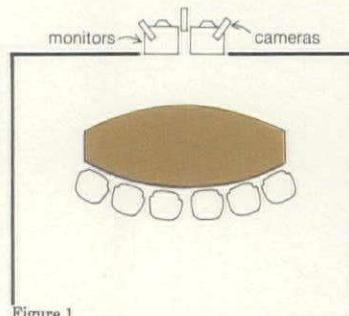
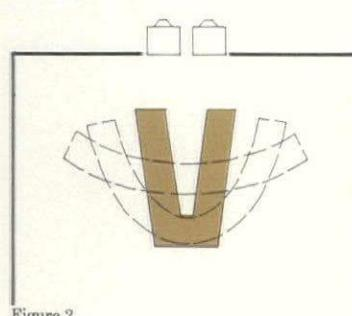
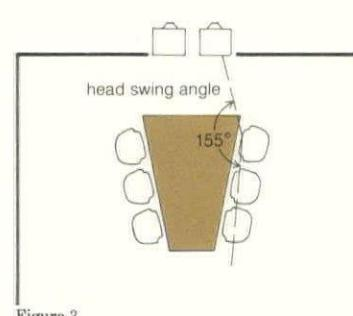

Figure 1
Figure 2
Figure 3
The arched shape of the semicircular table (Figure 1) satisfies two important optical parameters. First, every participant is approximately equidistant from the cameras. Second, every participant is approximately equidistant from the video monitors. The arrangement allows participants to be an appropriate distance from the monitors, and it avoids subjective image distortion introduced when lenses must encompass both very near and relatively distant objects. It also tends to give virtually equal importance to each participant. It was intended to approximate the feeling of a continuous conference table that extends to rooms at each end of the teleconference, divided from each other only by a transparent hole in space. (Unfortunately, this illusion of an extended conference table can be achieved only with large-screen television projection, which has other disadvantages.)
One of the development principles behind the wedge-shaped table (Figure 2) was the intent to break down the hole-in-space barrier while using standard monitor sizes. The table can be looked at as the end result of "bending" the semicircular table inward until it forms a wedge or V shape. Proponents of this design say it provides a meeting setting more conducive to discussion within the room than the semicircular design, that it allows better overview pictures and that it avoids debate over switching algorithms. Since it requires fewer cameras to cover, it also tends to be less expensive.
Another comment is that, because the table promotes interaction among those seated around it, it tends to make people at the remote location mere observers of an *internal* conference rather than active participants. It is for this reason that we label the wedge-shaped table an "internal-oriented configuration." The wedge shape also requires participants to perform an almost 180-deg head swing in order to look from an adjacent participant to the image on the monitor (Figure 3).
*Teleconferencing tables may take several shapes. The semicircular table (Figure 1) has the advantage of placing participants within equal range of the cameras and monitors, but the disadvantage of imposing formality on the discussion. By bending the working side of the semicircular table into a V (Figure 2) or by filling in the V as a wedge (Figure 3), designers can create a*